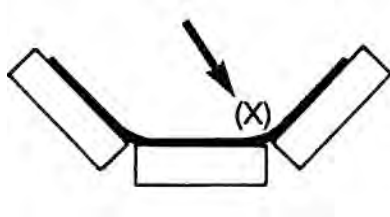
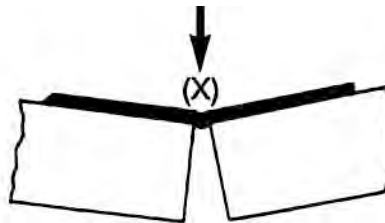

Fig. 1
Fig. 2
** The idler junction is the gap between the functioning surfaces of the center roll and one of the side rolls of the idler (See Fig. 1). This gap poses a potential hazard for the belt by providing a narrow space in which the belt can settle experiencing highly detrimental flex and possible exposure to oil or grease from the idler bearings (Fig. 2). When slipping of the belt into the idler junction is the cause of belt damage, it is called idler junction failure. The idler gap should be less than .4" or twice belt thickness - whichever is less.*